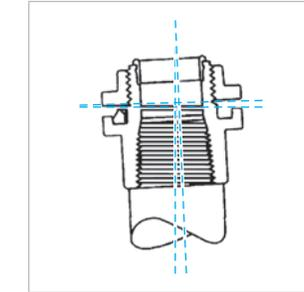

Figure 1
1. Sealing ring and groove with innovative profile outperforms standard 'O' ring design. Sealing ring is captive before installation and resists buckling or slipping during installation. The seal groove is designed for optimum compression of the sealing ring. The sealing ring is designed to provide a complete 360° seal, even when the conduit is not perpendicular with the enclosure. (See Figure 1)